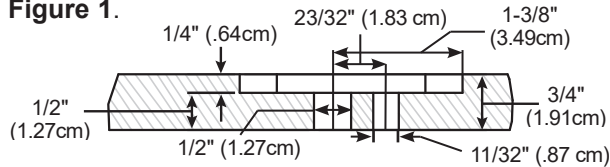

Figure 1
- 7.7. Using a router, straight line guide, and a 1" (2.54 cm) router bit, route a 1/4" (.64 cm) deep counter bore on the 3/4" (1.91 cm) panel. See **Figure 1**.